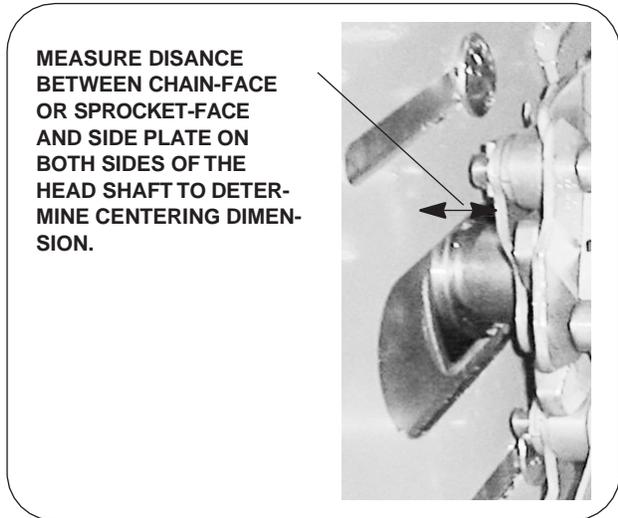

Figure 5. Headshaft Centering Measurement
- a). Measure the distance between the headshaft sprocket face (or chain face) and the inside of the sidewall on both ends of the shaft to verify that the metal belt is centered in the discharge section (Figure 5). If not, proceed as follows:
- Measure the distance between the chain face (or sprocket face) and the inside of the sidewall (Figure 5). Be sure that the sprockets are centered (distance is equal for both sides).
- Adjust the headshaft so that the chain is equal distant between the chain and the inside of the side plate on each side (Figure 5).